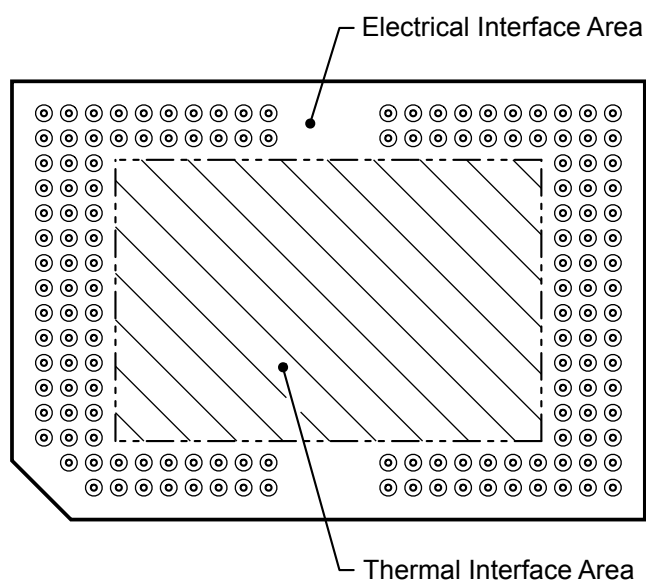

Figure 6-13. System Mounting Interface Loads
(1) The load should be uniformly applied in the corresponding areas shown in Figure 6-13.